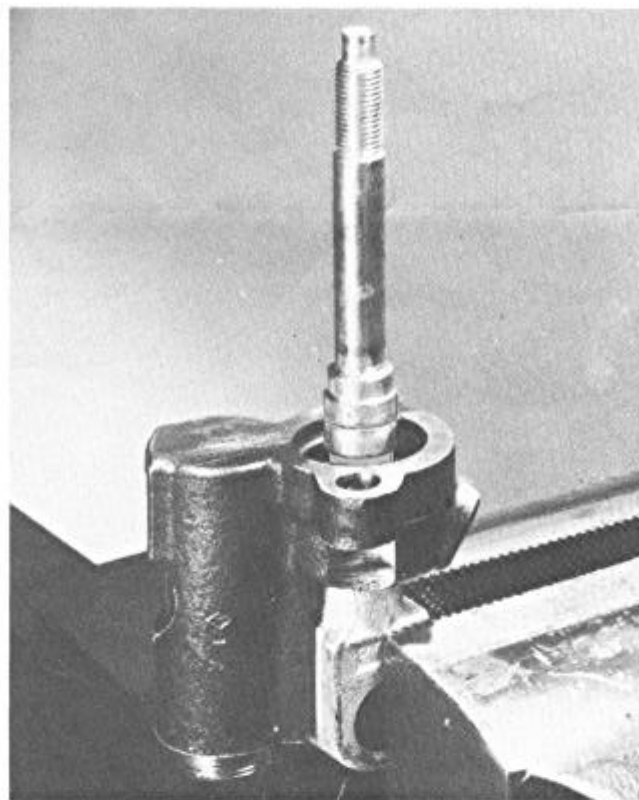

FIGURE 15
1. Clamp head of valve shaft (16), Figure 15, in a vise so that the shaft is in a vertical position and install the steering arm ball housing (14) over the valve shaft (16).